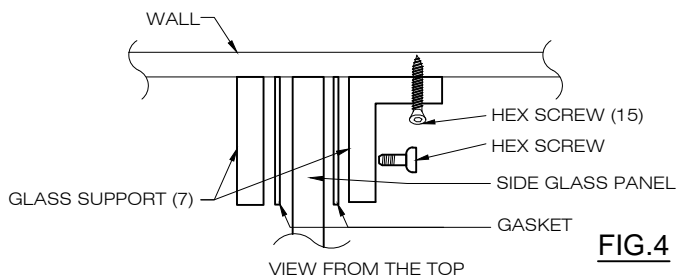

FIG.4
7. Replace the front glass panel. Screw into the wall with 1 5/8" screws (#15). [SEE FIG.4]